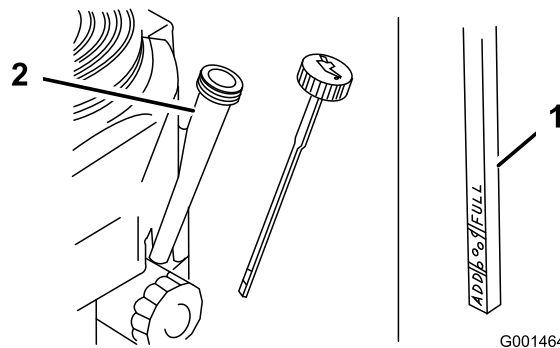

Figure 36
- Clean around the oil dipstick (Figure 36) so that dirt cannot fall into the filler hole and damage the engine.
- Unscrew the oil dipstick and wipe the end clean (Figure 36).
- Slide the oil dipstick fully into the filler tube, but do not thread onto tube (Figure 36).
8. Slowly pour approximately 80% of the specified oil into the filler tube (Figure 36).